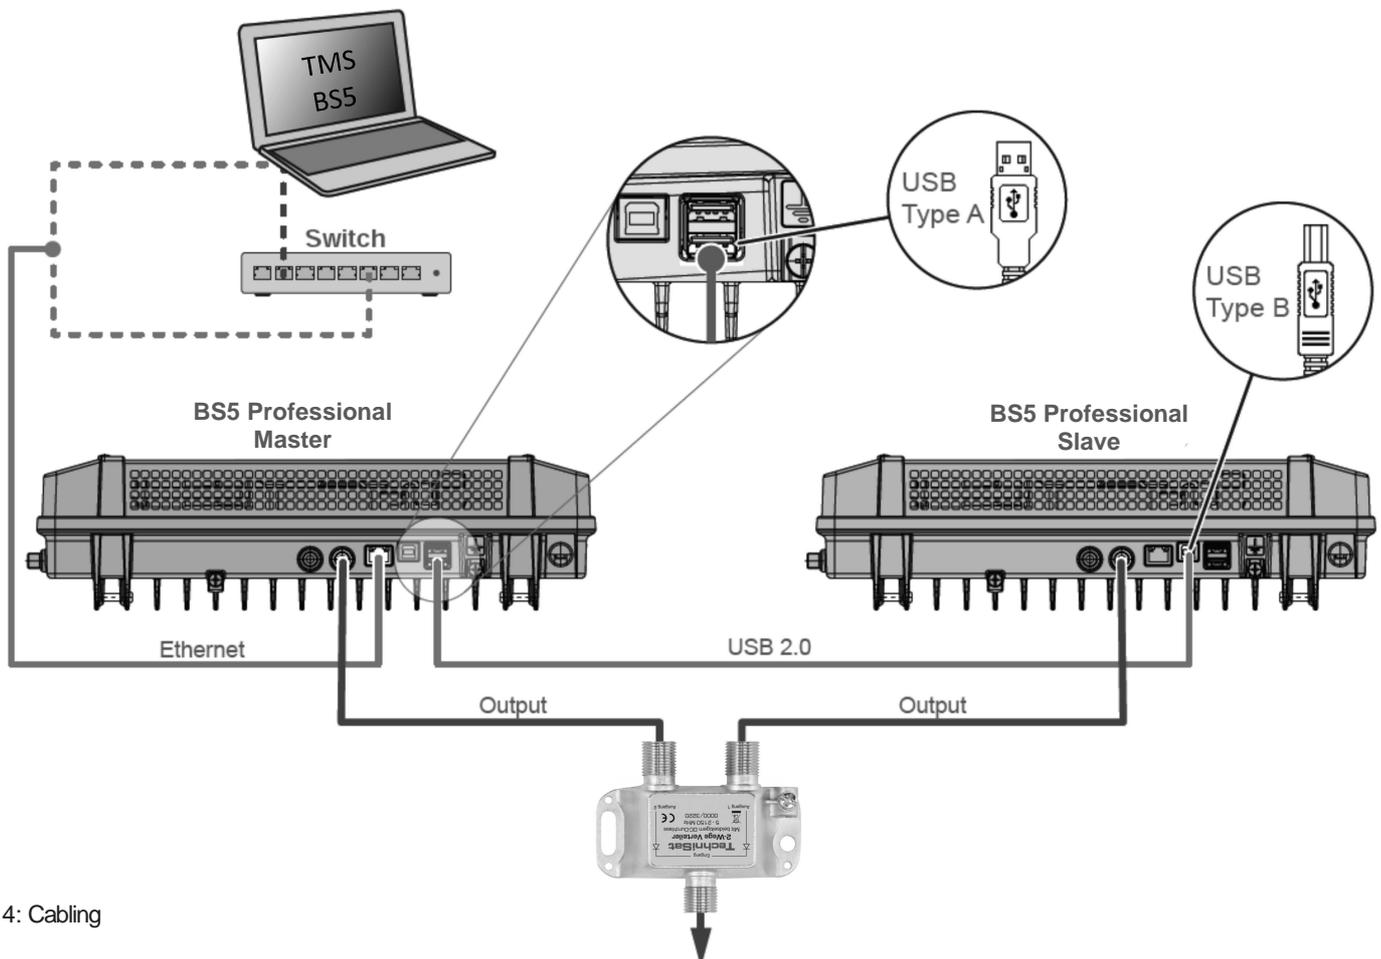

Fig. 4: Cabling
2. Connect an Ethernet cable¹⁾ to the RJ45 socket on the computer, if required connect this to a network; see Fig. 4, P. The head-end will now function as the *master*.
3. If a second head-end is present: Connect the second head-end to the first head-end using a USB 2.0 cable (Fig. 4). In this case: